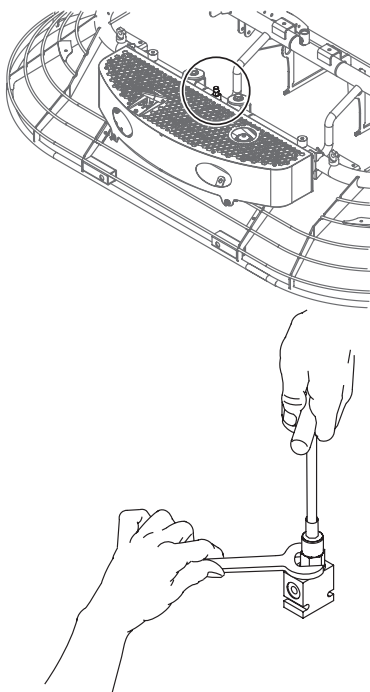

Figure 60. Steering Pressure Adjustment
2. Loosen the jam nut on the pilot relief valve (Figure 60).